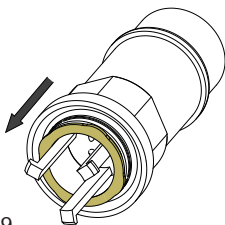

Fig. 29
- To remove magnetic float assembly pull the brass adaptor out from the flowswitch body (Fig. 29).